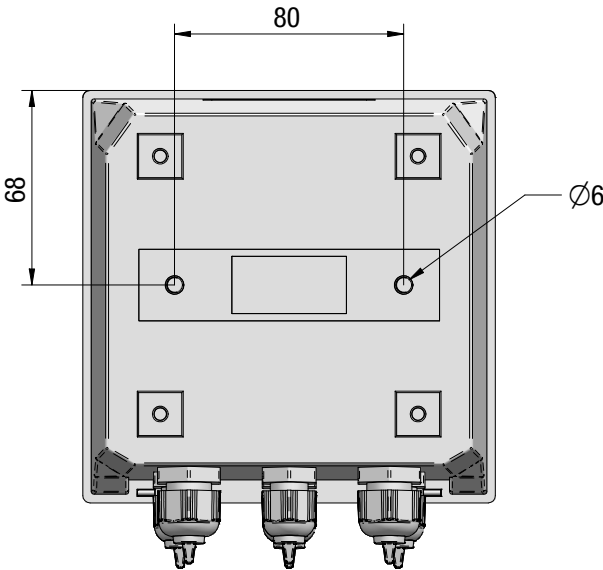

Fig. 6: Drillhole Dimensions
1. Drill the two holes for mounting the device on the wall (see Fig. 6 "Drillhole Dimensions" on page 12).